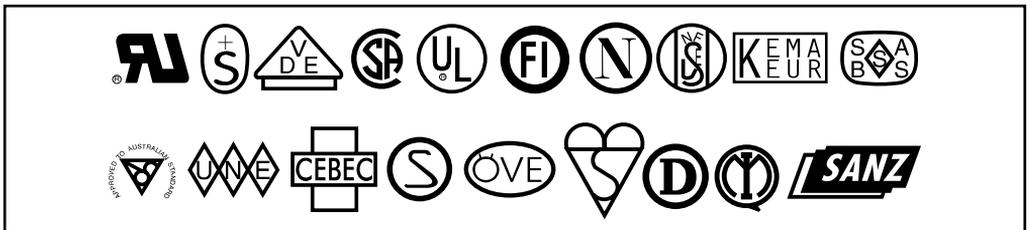

Figure 2
- The AC power plug and IEC320 connector should bear the certification mark of at least one of the known international safety organization shown in Figure 2.